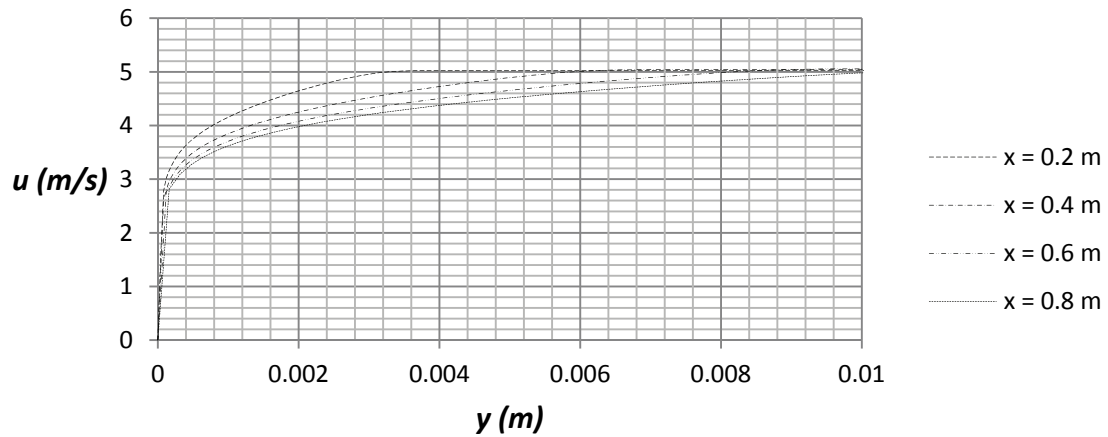

Figure 2.30a) Flow Simulation comparison between turbulent boundary layers at  $Re_x = 10^6 - 4.1 \cdot 10^6$
32. Place the file “xy-plot figure 2.30a)” into the Local Disk (C:)/Program Files /SolidWorks Corp/SolidWorks Flow Simulation/lang/english/template/XY-Plots folder to make it available in the Template list. Repeat step 24 and choose the sketch  $x = 0.2, 0.4, 0.6, 0.8$  m and check the box for **Velocity (X)**. Rename the xy-plot to **Turbulent Velocity Boundary Layer**. An Excel file will open with a graph of the streamwise velocity component versus the wall normal coordinate, see figure 2.30a). We see that the boundary layer thickness is much higher than the corresponding laminar flow case. This is related to higher Reynolds number at the same streamwise positions as in the laminar case. The higher Reynolds numbers are due to the selection of water as the fluid instead of air that has a much higher value of kinematic viscosity than water.
As an example, the turbulent boundary layer thickness from figure 2.30a) is 4.45 mm at  $x = 0.2$  m which can be compared with a value of 4.44 mm from equation (4), see table 2.5.
- 2.6 Determine the displacement thickness, momentum thickness and shape factor for the turbulent boundary layers in figure 2.30a) and determine the percent differences as compared with empirical data.